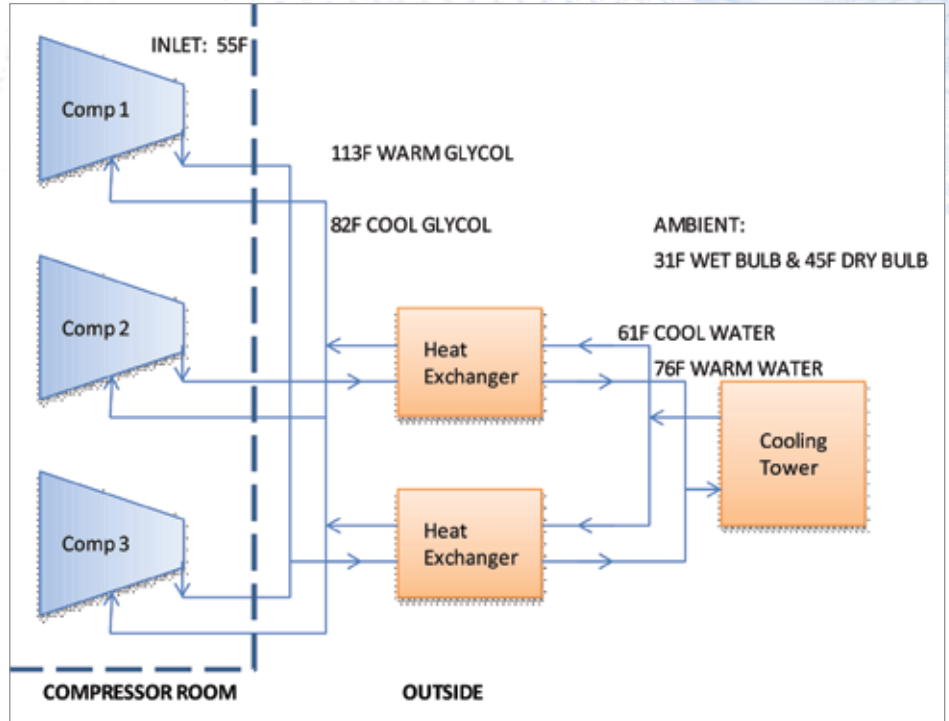

Figure 1: Existing System Diagram
- Glycol is cooled on the other side of the intermediate heat exchanger by water. The water is pumped through the heat exchangers, and then to an open cooling tower and back to the pump inlet (Refer to Figure 1 and Table 1).